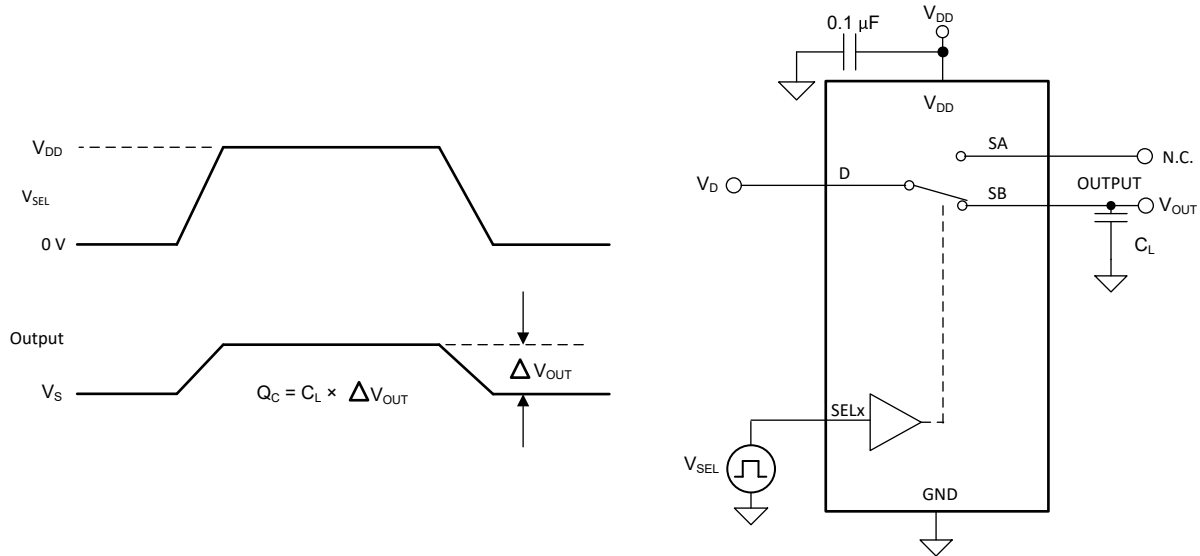

Figure 14-11. Charge Injection Measurement Setup
Any mismatch in capacitance results in a charge injected into the drain or source during the falling or rising edge of the gate signal. The amount of charge injected into the source or drain of the device is known as charge injection, and is denoted by the symbol Q_C . Figure 14-11 shows the setup used to measure charge injection from Drain (D) to Source (Sx).